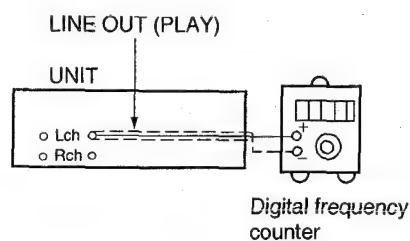

Fig. 3
1. Connect the measuring instrument as shown in Fig. 3.